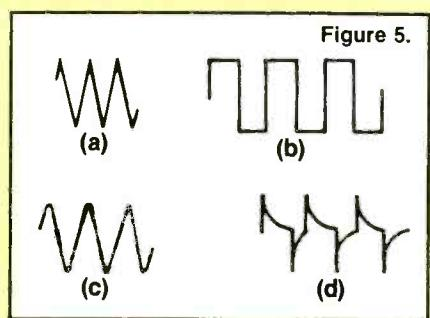

Figure 5.
9. Refer to Figure 5. With a pure sinewave input to a differentiating circuit, the output should have a waveform like the one shown in